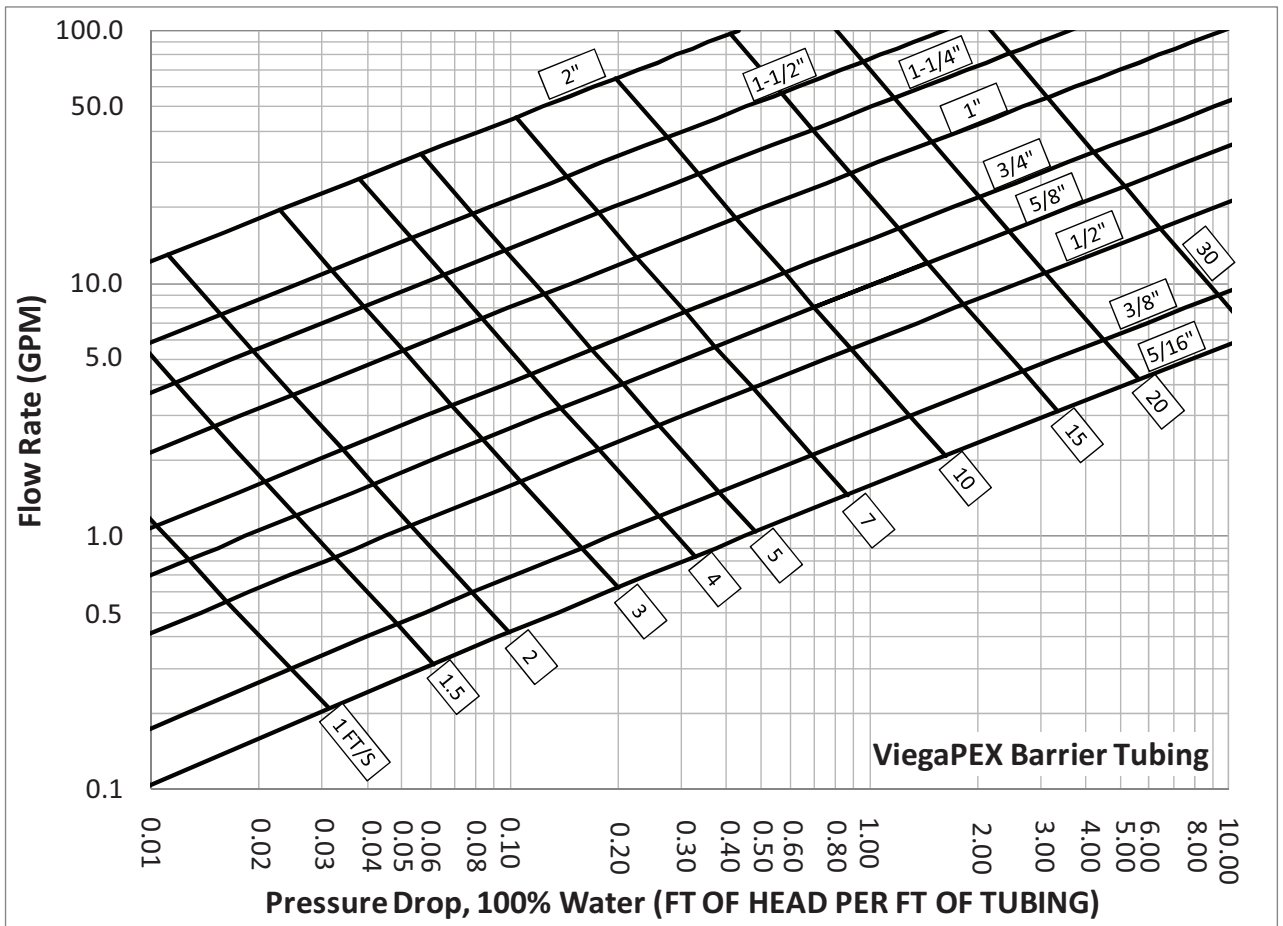

Figure 1-26 Pressure drop of Viega Barrier PEX tubing based on flow rate and diameter
1. Locate desired 1 gpm flow rate for the tubing on the left vertical axis of Figure 1-26